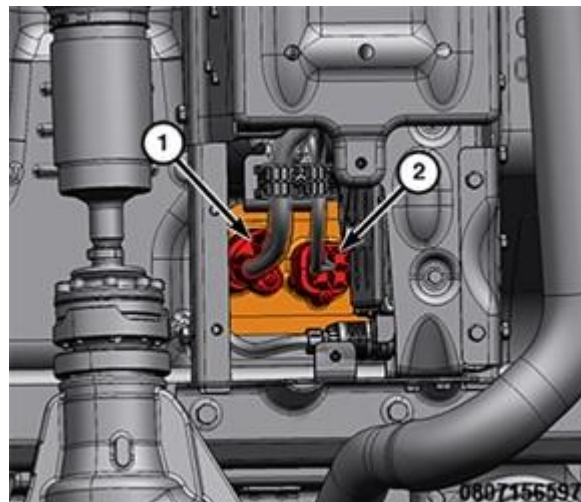

Figure 18 – HV Battery Wiring Connectors
- 33. Disconnect the HV wire harness connectors (1) and (2) from the HV battery (Figure 18).